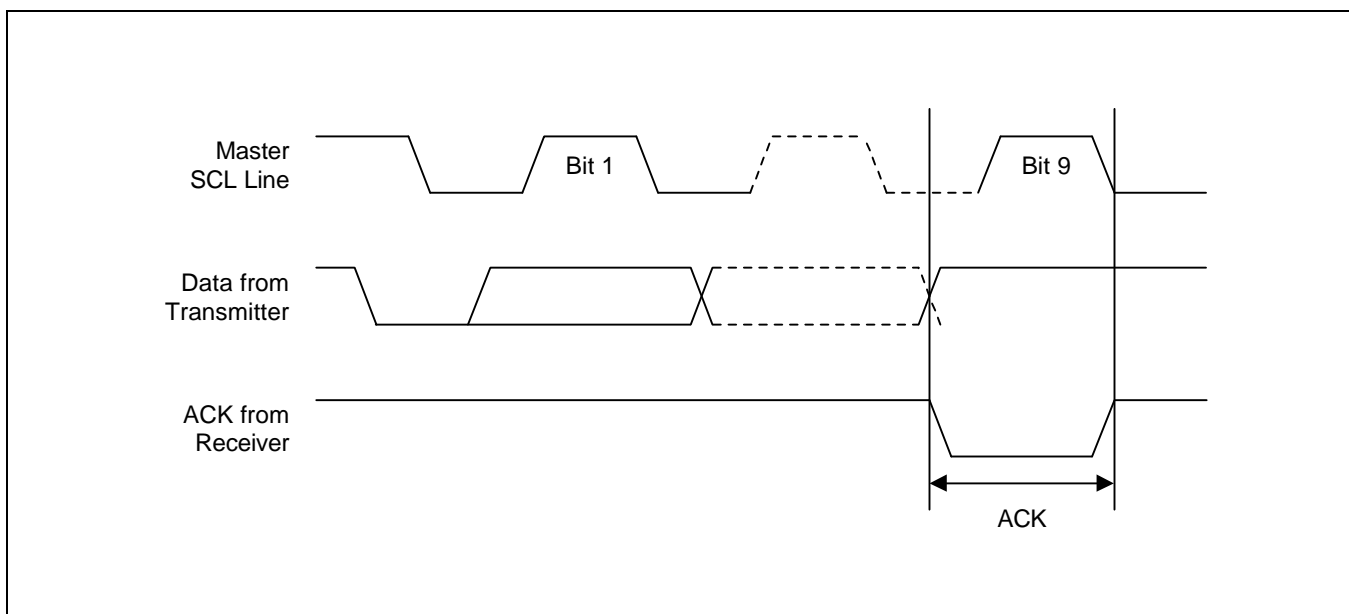

Figure 7-8. Acknowledge Response From Receiver
- **ACK (Acknowledge):** An ACK signal indicates that a data transfer is completed successfully. The transmitter (the master or the slave) releases the bus after transmitting eight bits. During the 9th clock, which the master generates, the receiver pulls the SDA line low to acknowledge that it has successfully received the eight bits of data (see Figure 7-8). But the slave does not send an ACK if an internal write cycle is still in progress.